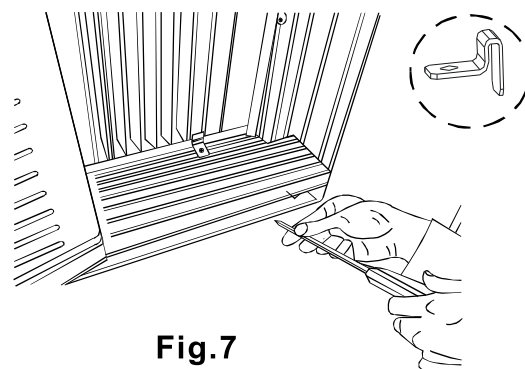

**Fig.6**
- B. Extend the side panels out against the window frame (Fig.6).